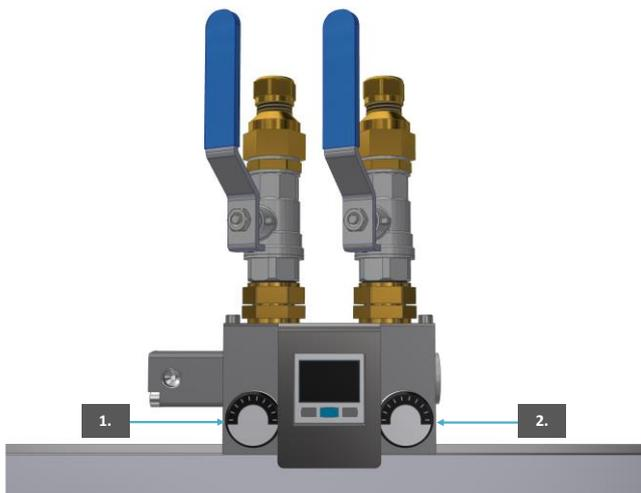

Figure 20. Pressure gauges on nitrogen generator
Depressurizing the nitrogen generator is necessary to work safely on the nitrogen generator. The pressure on the components of the generator can be up to 10 bar, which causes an increased safety risk. Before the generator can get depressurized, it first must be put in stand-by mode. This means that the system is not producing nitrogen anymore. By keeping a close eye on the pressure gauges (Figure 20 no. 1 & 2) on the nitrogen generator, it can be checked if the machine is in stand-by mode. When both pressure gauges are showing the same pressure (± 3 bar) and not decrease or increase, the nitrogen generator is in stand-by mode.
4. Both pressure gauges (Figure 20 no. 1 & 2) on the nitrogen generator will drop back to ± 3 bar and will not increase or decrease. The generator is in stand-by mode.